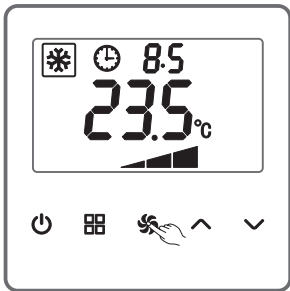

Figure 4
- (1) The unit is timed to start or stop, ranging from 0.5 to 24 hours.
- (2) As shown in the Figure 4, after starting the unit, to keep pressing  (SPEED) for about 5 seconds (press keeping hereinafter lasts 5 seconds) can disable or enable the timer. When enabling the timer, the symbol  flashes. A press of